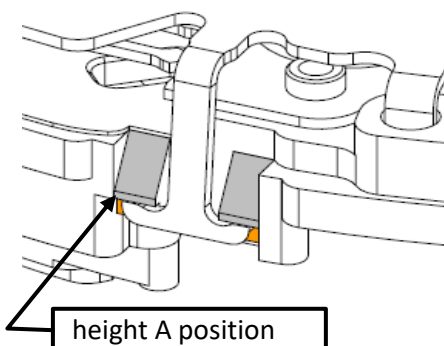

Fig.2 (built-in height A)
- Assemble the two hooks on the support for dial side parts to the position of the built-in height A of the base plate. (Fig.2)